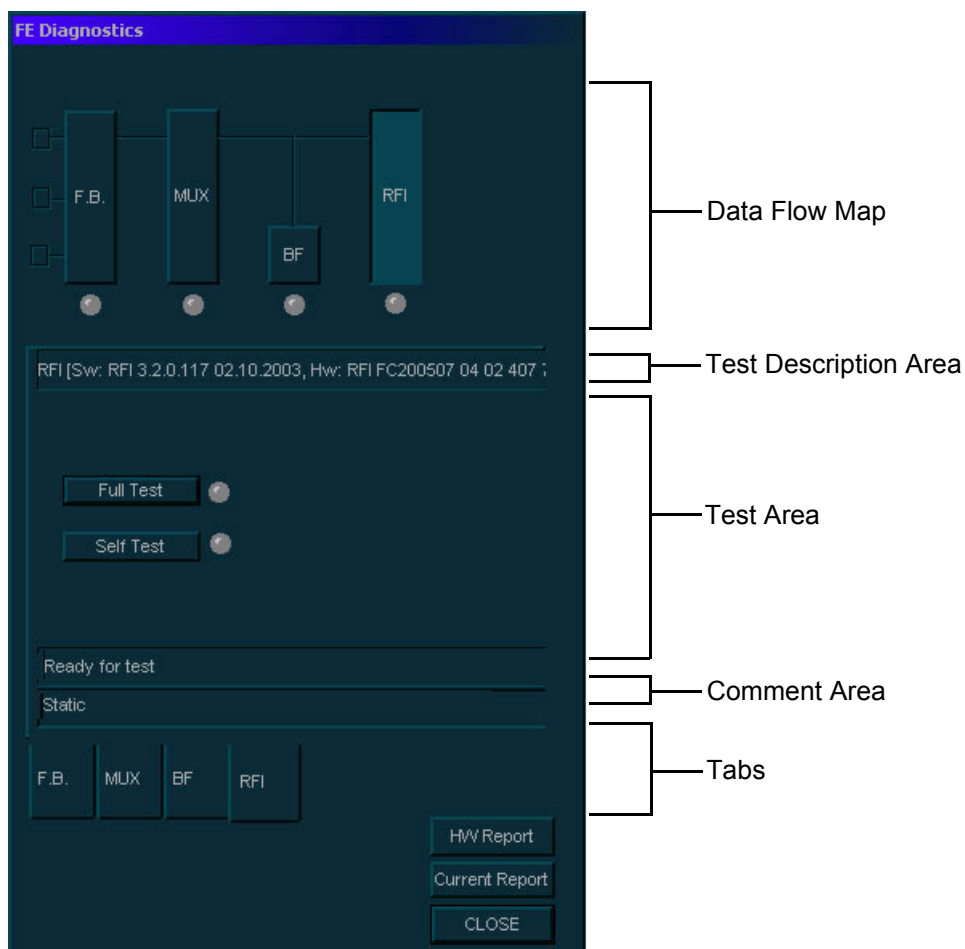

Figure 7-5 RFI Tab - FE Diagnostics Dialog Box
- 3) Verify that the **Comment** area indicates that the system is ready to perform the test (as shown in Figure 7-5, above).